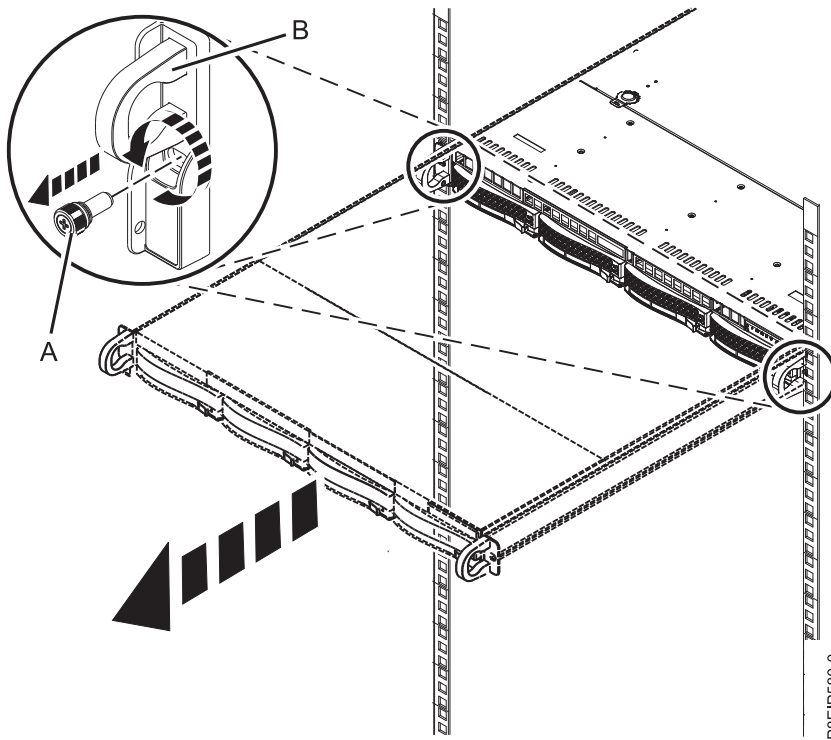

Figure 59. Removing the front screws and removing the system from the rack
2. Remove the front screws that secure the system to the rack from both sides of the system as shown in Figure 59.